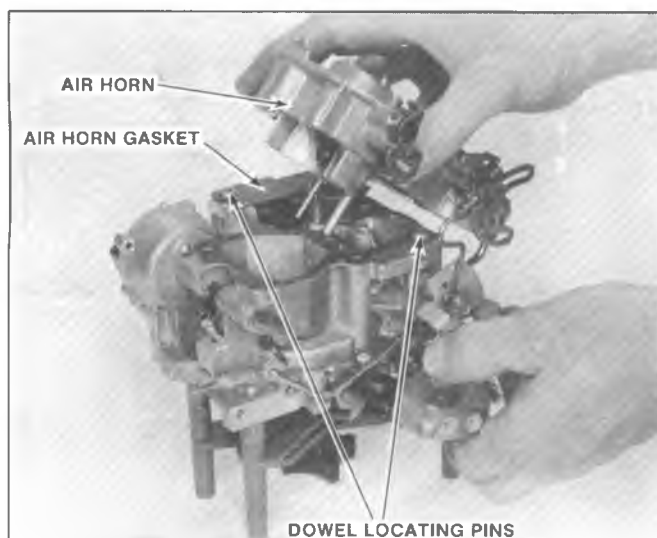

Fig. 6C2-24--Air Horn Assembly
5. Remove float assembly and float valve by pulling up on retaining pin. Remove float valve seat and gasket, using seat remover J-22769 (Fig. 6C2-26).